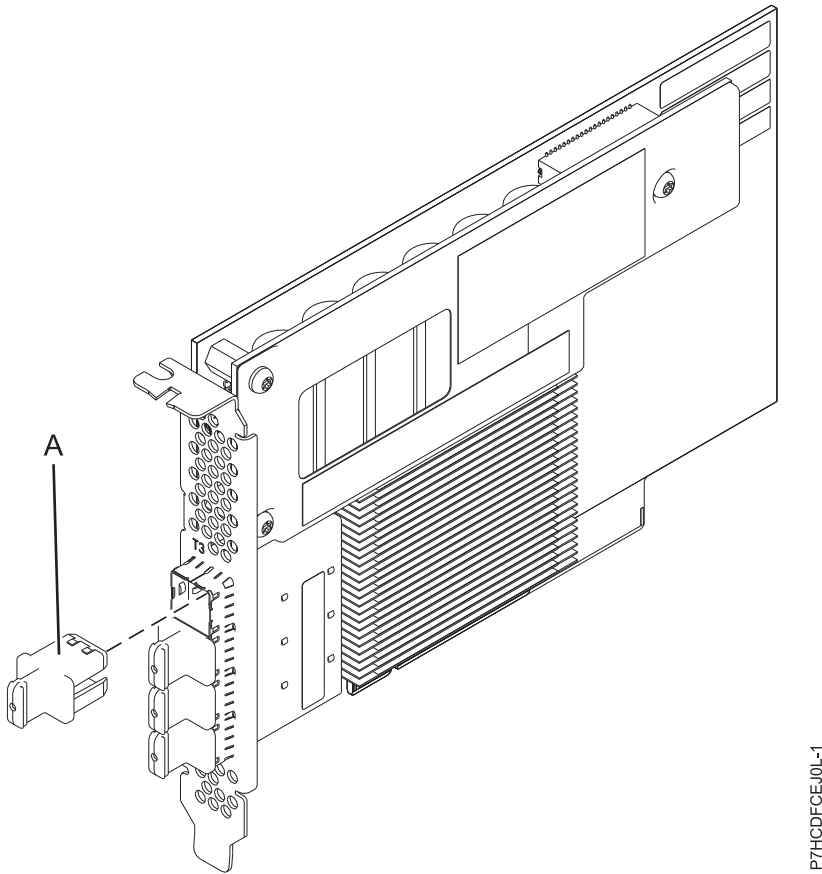

Figure 24. PCIe3 12 GB Cache RAID SAS 6 Gb Adapter
Figure 24 on page 68 shows the PCIe3 12 GB Cache RAID SAS quad-port 6 Gb adapter. The connector plug (A) is installed in an empty port and prevents damage to that port whenever a cable for the adjacent port connectors is plugged-in or removed.
The FC EJ0L is a single wide, full-height, short adapter. Figure 24 shows the FC EJ0L adapter. Every FC EJ0L requires another FC EJ0L on this server, or on another server, which pairs with the SAS RAID adapter and enables cache functionality and the other multi-initiator high availability (dual storage IOA) functions.